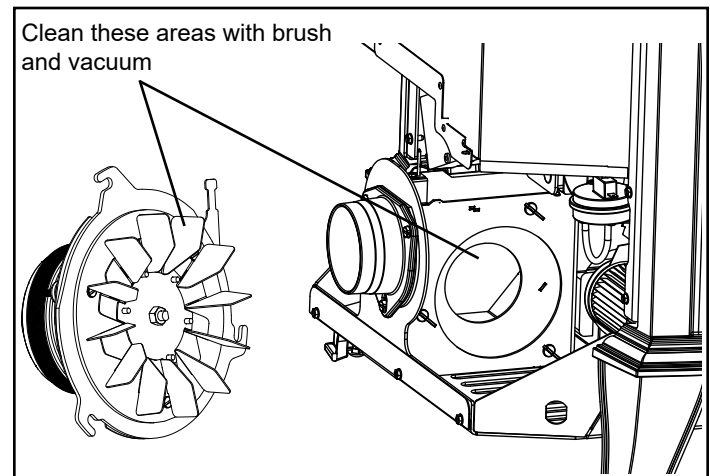

Figure 2.8
- Clean the combustion blower housing and fan blade with a brush and a vacuum cleaner Figure 2.8.